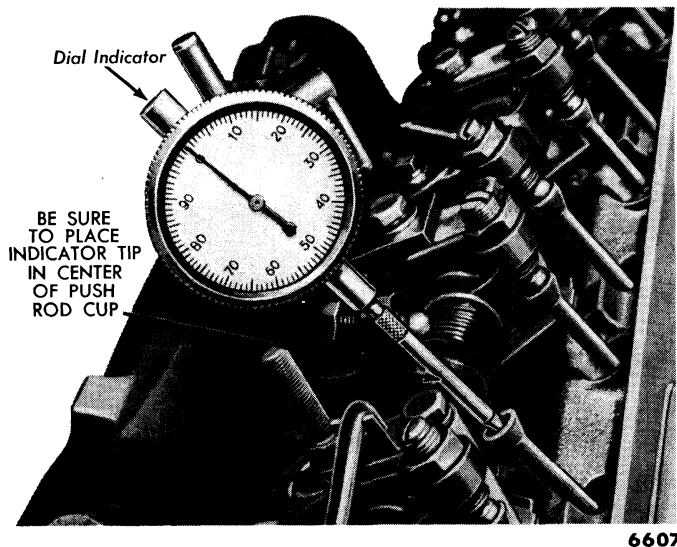

Fig. 22—Camshaft Lobe Lift Check—Typical
Back off the number 1 intake valve adjusting screw, then slide the rocker arm assembly to one side and secure it in this position. Make sure the push rod is in the tappet socket, then install a dial indicator in such a manner as to have the actuating point of the indicator in the push rod socket and in the same plane as the push rod movement (fig. 22). Turn the engine slowly (at either the crankshaft damper bolt or flywheel) until the tappet is on the heel of the cam lobe. Zero the dial indicator and continue turning the engine slowly until the desired lift is obtained (Table 1). Compare the degrees on the pulley with specifications.
(1) **CAM LOBE LIFT CHECK.** This procedure is similar to the procedure for checking valve timing. Loosen the valve rocker arm adjusting screw, then slide the rocker arm assembly to one side and secure it in this position. Make sure the push rod is in the tappet socket, then install a dial indicator in such a manner as to have the actuating point of the indicator in the push rod socket and in the same plane as the push rod movement (fig. 22). Rotate the engine slowly until the tappet is on the heel of the cam lobe. Zero the dial indicator, then continue to rotate the engine slowly until the push rod is in the fully raised position. Compare the total lift recorded on the indicator with specifications. Continue to rotate the engine until the indicator reads zero. This later step is a check on the accuracy of the original indicator reading.